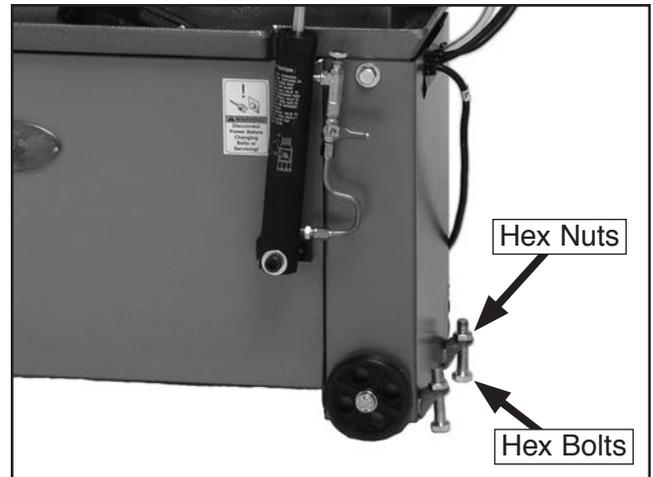

Figure 1. Location of stabilizer bolts.
1. Insert (2) 1/2-12 x 2 1/2 hex bolts into mounting brackets from beneath (see **Figure 1**) and secure with (2) 1/2-12 hex nuts.